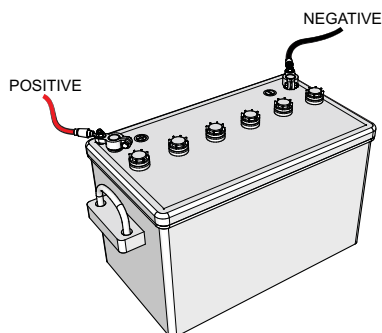

Figure 23. Battery Connections
**ALWAYS** be sure the battery cables (Figure 23) are properly connected to the battery terminals as shown below. The **red cable** is connected to the positive terminal of the battery, and the **black cable** is connected to the negative terminal of the battery.